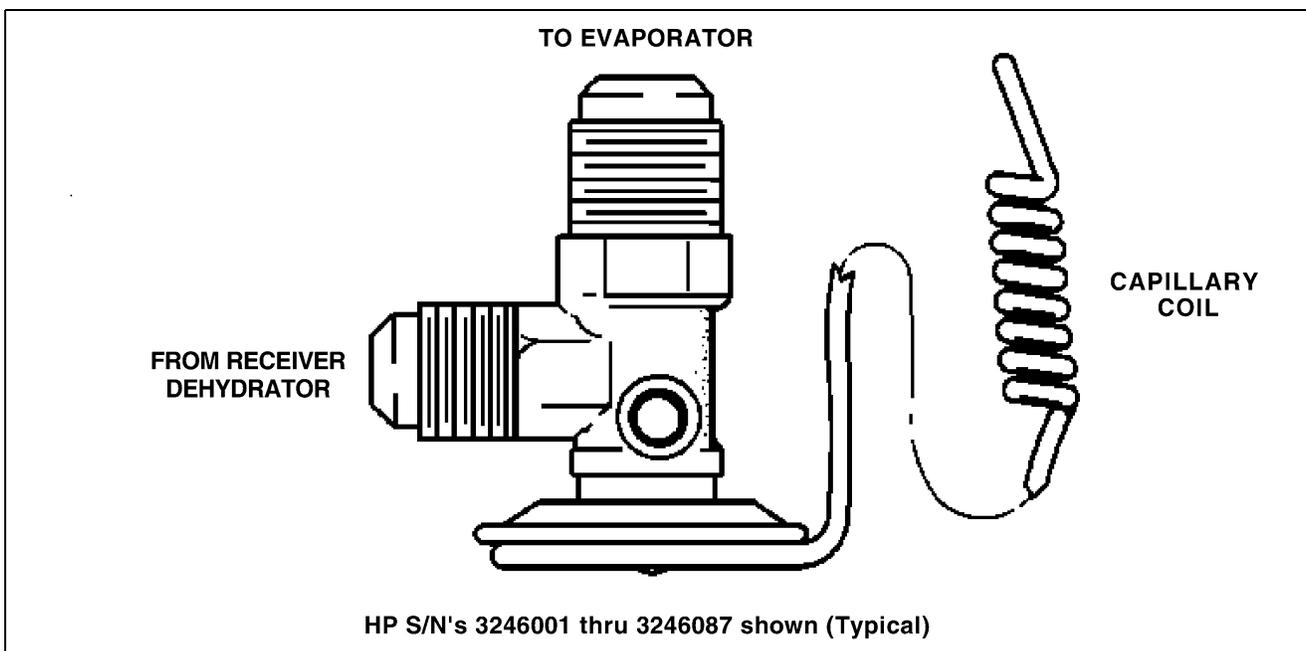

Figure 21-17. Expansion Valve
a. Expansion Valve Removal ( ref. Figure 21-17 )